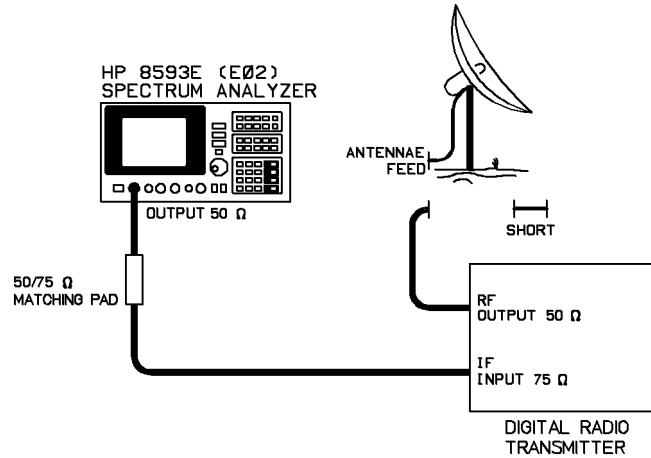

Figure 3-6. Link Transmitter Setup
1. Connect the HP 8593E Spectrum Analyzer as shown in Figure 3-6.
The matching pad shown in Figure 3-6 has a power loss of approximately 5.7 dB. Remember to take this into account when choosing the output power from the spectrum analyzer.